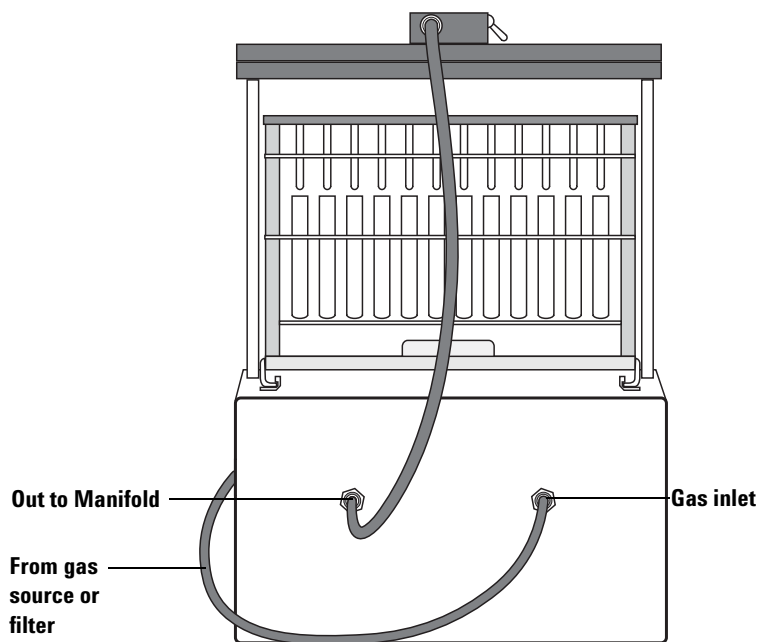

Figure 7 Agilent positive pressure manifold 48 processor gas connections
- 5 Connect the filter to the processor gas inlet, so that gas flows through the filter prior to entering the processor. Push the tubing into the push-to-connect fitting until it is fully seated in the fitting. See Figure 7 on page 24 and Figure 8 on page 24 for diagrams showing proper tubing installation. If you are not using a filter, use the tubing provided to connect your gas source directly to your processor’s gas inlet.
- 3 Push the new tubing from an installation kit (p/n 5191-4114) into the appropriate push-to-connect fittings (see Figure 7 on page 24 and Figure 8 on page 24). For more information on the installation kit, see “Parts and Accessories” on page 21.